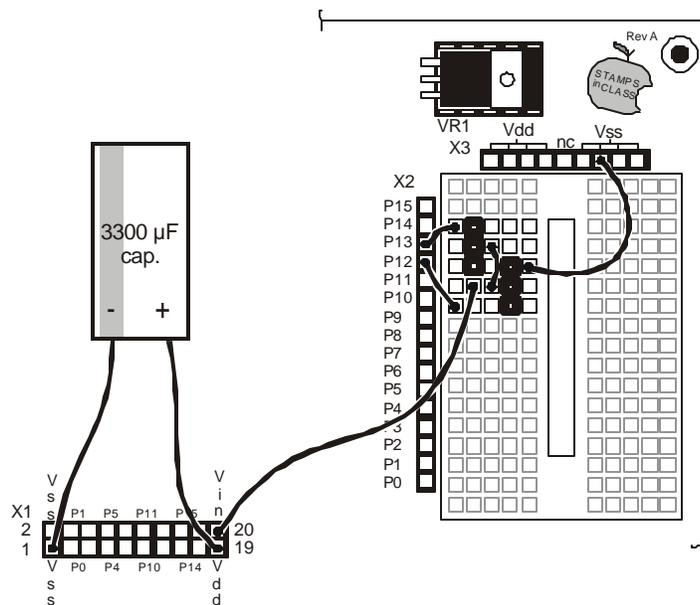

Figure D.2: Servo Port Wiring.
The servo ports we are going to make will function as replacements for servo Ports 12 and 13 on the Board of Education Rev B. Once these servo ports are built and tested, you can leave them plugged in every activity from Chapter #1, Activity #6 through the end of the text (Chapter #6, Activity #3). With this in mind, leaving the servo ports on your BOE Rev A connected and not disassembling them between activities is recommended. Any activity that features a schematic with servos connected to I/O pins P12/P13 will work fine with this servo port design shown in Figure D.2. Likewise, whenever a picture shows servos plugged into the BOE Rev B's servo ports 12 and 13, Figure D.2 is the BOE Rev A substitute for the servo port wiring.
Next connect the ports to the Board of Education as shown in Figure D.2.
- ❑ Insert the three-pin headers into the breadboard and use jumper wires to connect Vin, Vss, P12 and P13 to the sockets on the white breadboard EXACTLY AS SHOWN in Figure D.2.